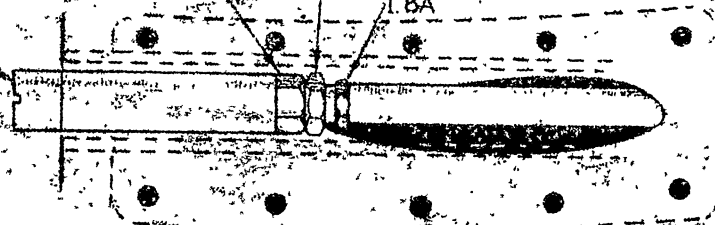

Fig 4
(6) With the teleflex pulled out to its full extent, adjust the position of the spring (E) so that when the plunger is replaced against the spring, the groove on the plunger is approximately 1/32" in advance of the pencil line.
(7) Holding the plunger stationary, screw up the plunger sleeve (d) tight and secure the locknut. This should compress the spring and hold the teleflex firm in the plunger, the groove on it should now be level with the pencil line as in Fig.4.
(8) Replace the guide and perform a retraction test. In the retracted position the groove on the plunger should be level with the end of the guide.
(9) Replace the wheel, reconnect the door, and repeat the retraction test.